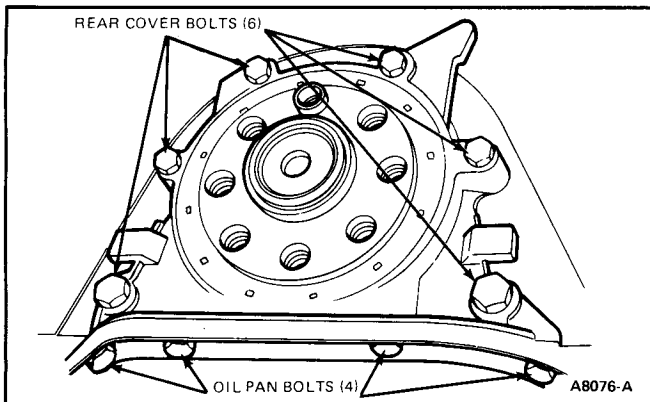

FIG. 44 Rear Cover Attaching Bolts
4. Remove four oil pan to rear engine cover attaching bolts (Fig. 44).
6. Remove six engine rear cover bolts and remove cover (Fig. 44).
9. Install rear cover bolts and tighten 6mm bolts to 8-10 N·m (6-7 lb-ft), and 8mm bolts to 20-24 N·m (14-17 lb-ft) (Fig. 44).
10. Install four oil pan to rear cover attaching bolts (Fig. 44). Tighten all oil pan bolts to 9-10 N·m (6.5-7 lb-ft).